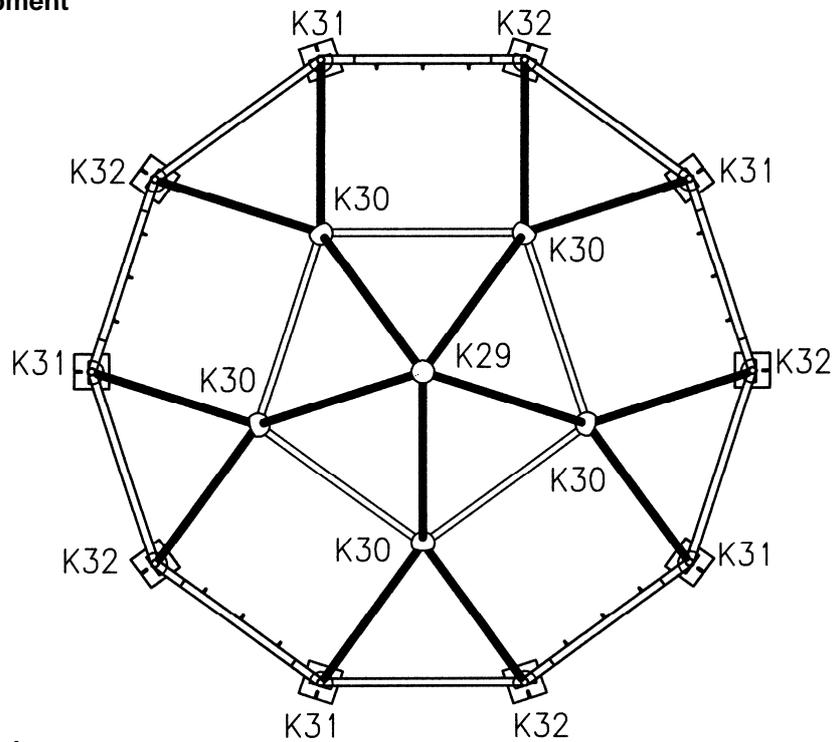
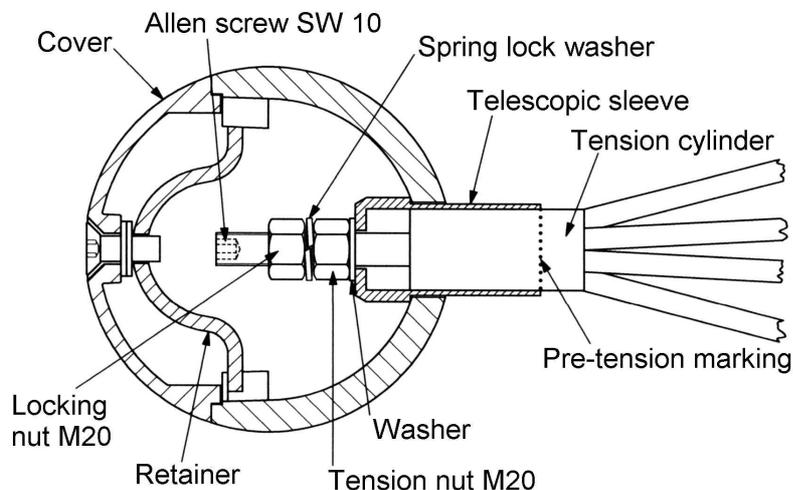
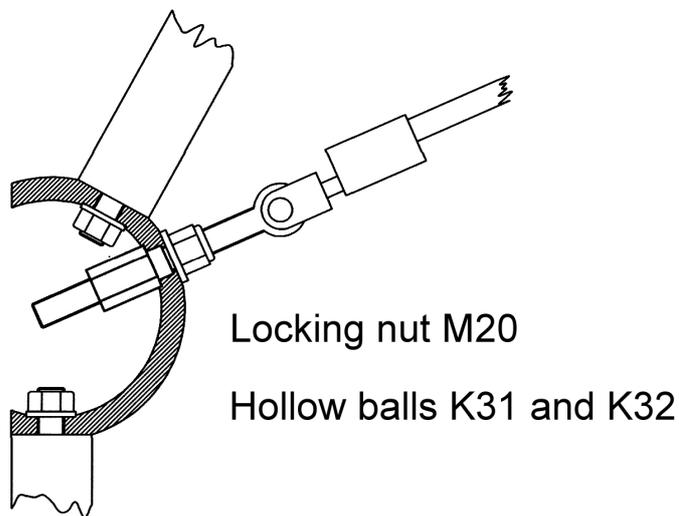

Figure 9
Figure 16
Figure 17
Preassembly of the space net begins by screwing the tension systems into the hollow balls of **K30** (Figures 9, 10 and 16). In doing this, the tensioning cylinder is inserted into the telescopic sleeve with the M20 bolt and mounted from the inside with the tension nut M20 (Size 32) with approximately 5 turns of the thread. After this, the tension screws for hollow balls **K31** and **K32** (Figures 9 and 10) are made which also mount the tension rope via the fork screws (Figure 17).
Firstly the aligned connection on the hollow ball **K29** is to be solidly secured. Tensioning of the space net begins on the hollow balls of **K31** and **K32** which are screwed to the locking nut (Figure 17) using the special spanner supplied. After doing this tensioning is made on **K30** hollow balls up to the marking (Figure 16). Finally, the space net must be under a tension having an even strength throughout.
After tensioning, the tension nuts are to be locked on all **K30 knot points** using the locked nuts and spring lock washer provided (M20 Size 32). **In order to tighten the locking nut, the Allen key Size 10 must be inserted into the M20 screw and held (Figure 16).** The locking nuts Size 30 (**Figure 17**) are to be inspected once again to ensure that they are solidly secure at the **K31 and K32 knot points**. Finally all knot points from **K29 to K32** are to be closed by screwing the knots with the prepared covers via a clamping screw (**Figure 16**). In doing this please ensure that the cover is positioned evenly so that our company logo is readable. Thank you.
- The first re-tensioning must be carried out after one to two weeks. Re-tensioning is made via the tension nuts (M 20) in the hollow balls. Firstly the **balls K31 and K32** are re-tensioned. After removing the cover using an Allen key Size 10 and loosening the locking nut M20 Size 30 (Figure 17) on the outside of the ball, the inside tension nut Size 30 is re-tensioned with the box spanner. It is imperative that the **locking nuts** be solidly tightened **after re-tensioning**. After this, further re-tensioning is made at the **K30 knots** and should be carried out evenly. In doing this the inside locking nut M20 Size 32 is loosened after removing the cover and re-tensioned at the tension nut M20 Size 32 **beyond the pre-tension marking** using the special box spanner supplied. After re-tensioning, the tension nuts on the K30 knots must be **locked again** with the locking nuts. **Please note to the spring lock washer between the nuts. In order to loosen and secure the tension nut and locking nut M20 Size 32, the bolt M20 can be held with an Allan key Size 10 (Figure 16).** Finally the open hollow ball is once again closed with the cover. Please ensure that the cover is placed evenly so that our company logo is readable. Thank you.
- Check the locking nuts (**Figure 17**) to ensure solid seating at the **K31 and K32** hollow balls.